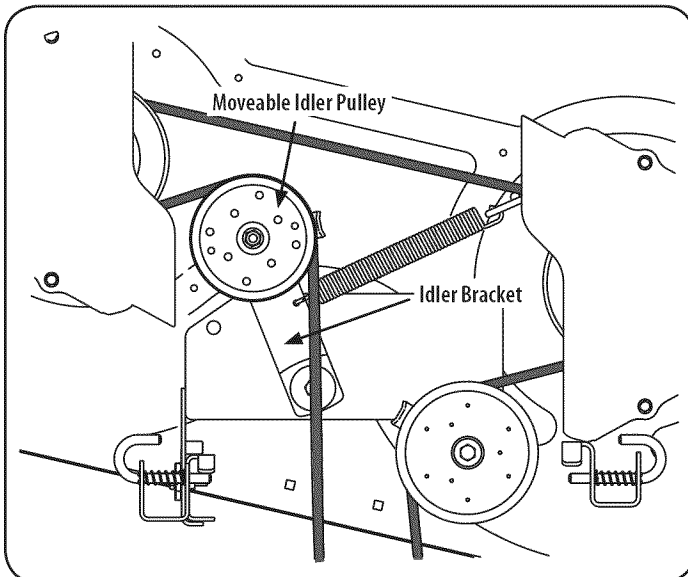

Figure 29
- b. Working from the middle of the tractor, pivot the idler bracket and movable idler pulley rearward away from the backside of the 'V' belt just far enough to lift the belt up and over the idler pulley. See Figure 29.